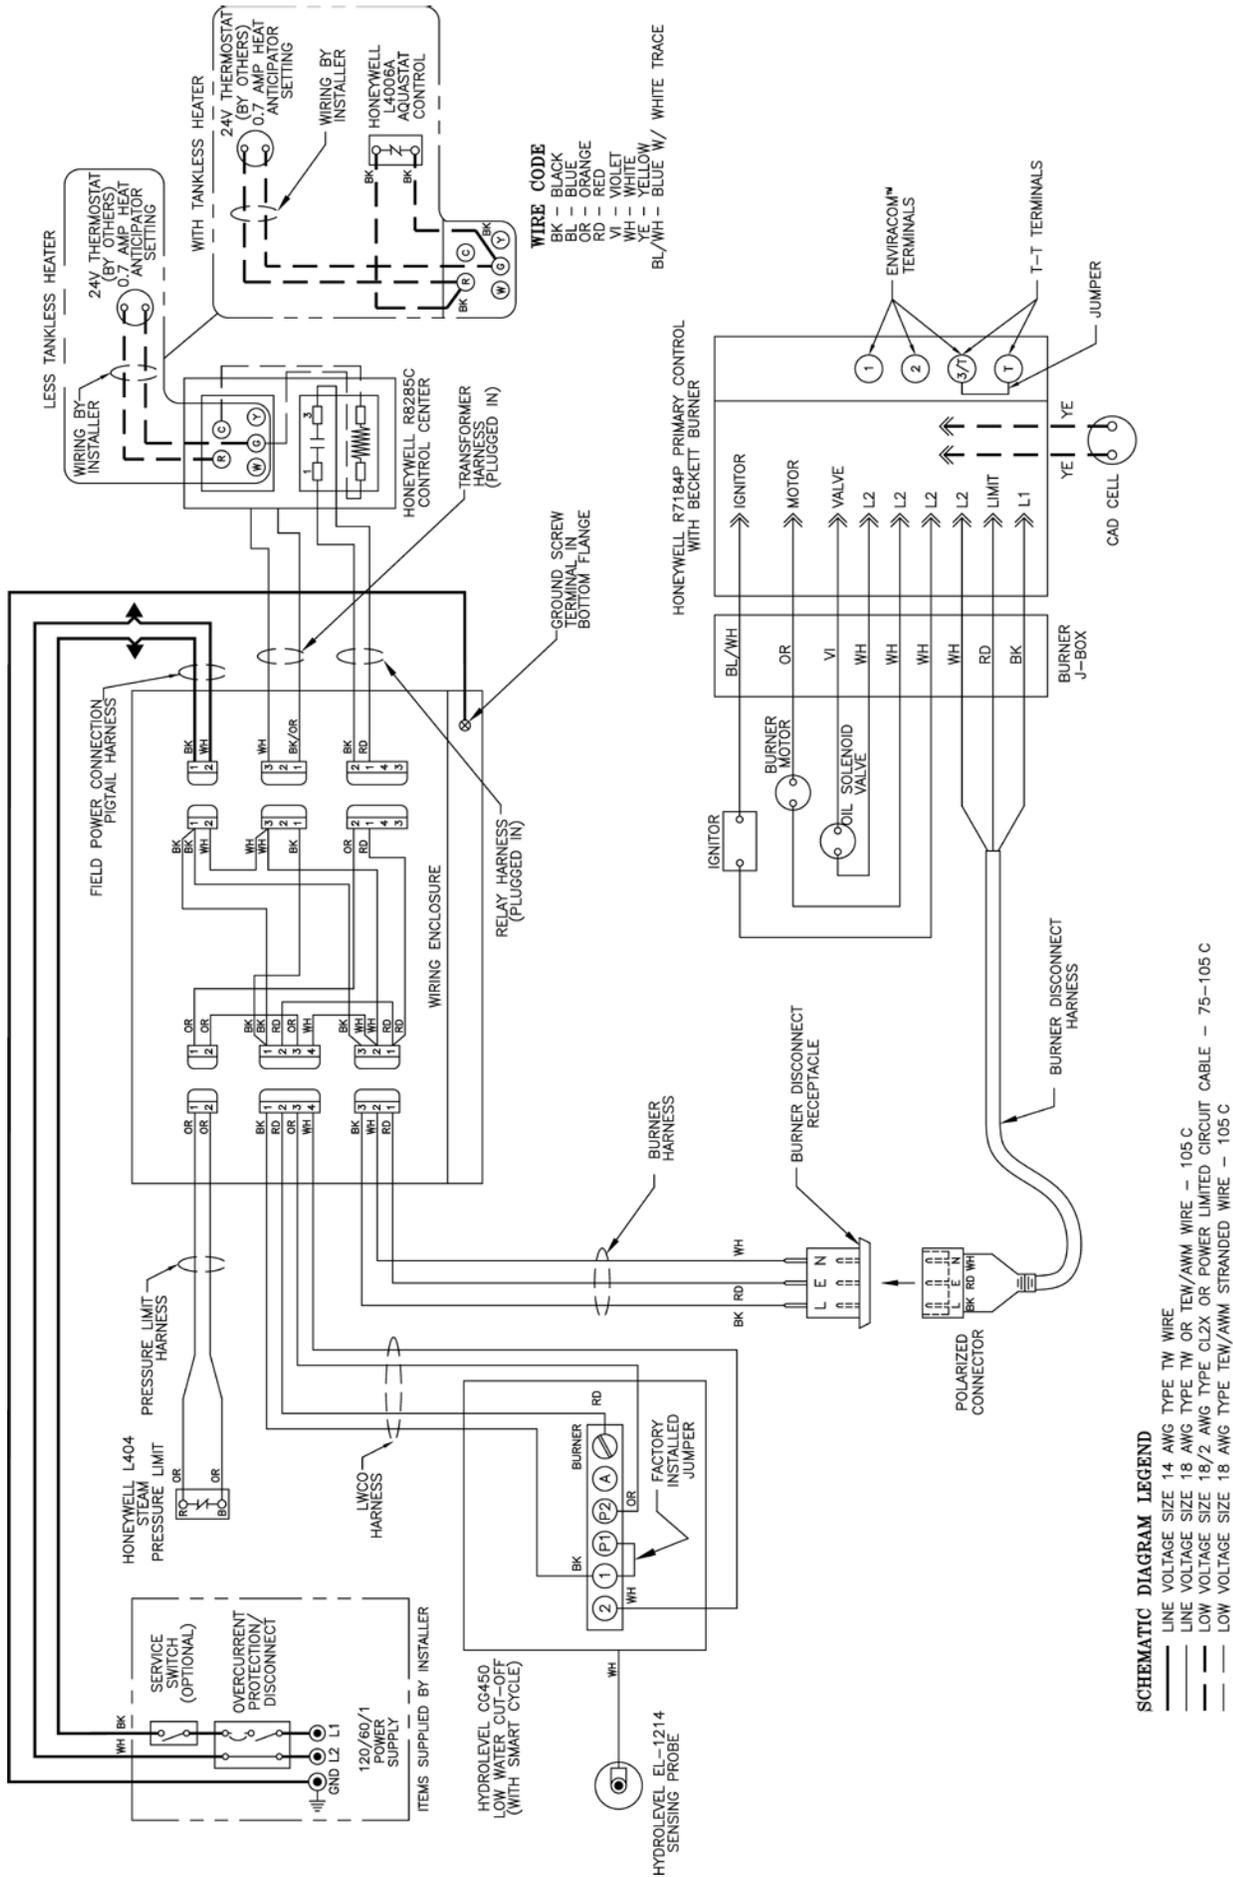

Figure 18: Wiring Diagram, Steam, Hydrolevel CG450 Probe LWCO
5. Use armored cable (BX) over all exposed line voltage wiring.
7. Wiring should conform to Figure 18.
BOILER SEQUENCE OF OPERATION WITH PROBE LWCO (See Figure 18)